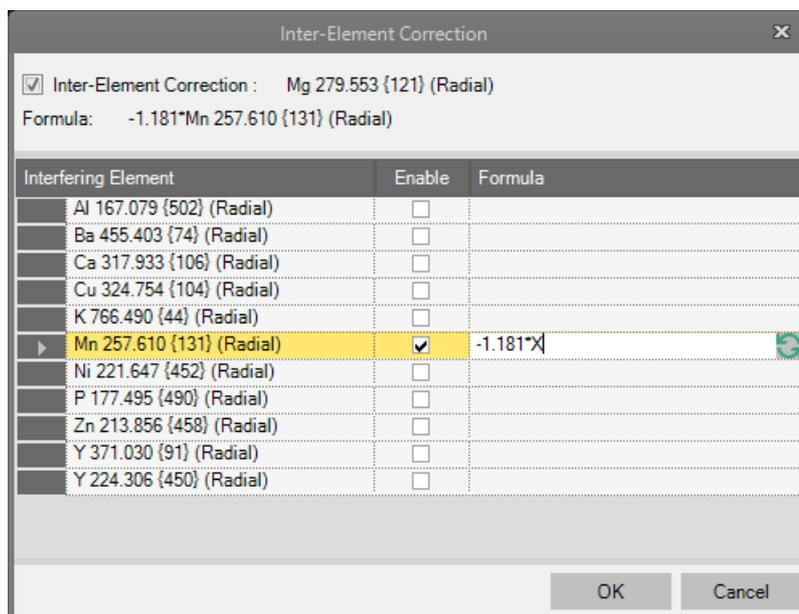

Figure 10-46. Inter-Element Correction dialog
1. Select **Inter-Element Correction** to open the dialog as shown in Figure 10-46.